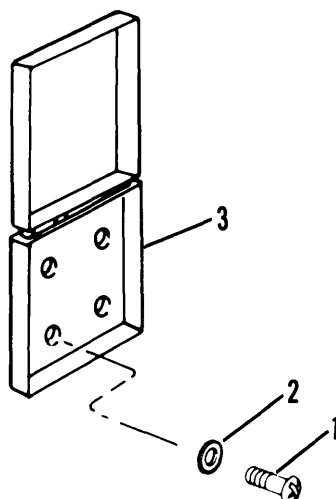

Figure 4-63. Document Box
- (1) Remove four screws (1, fig. 4-63) and washers (2) .
- (1) Place document box (3, fig. 4-63) into position.